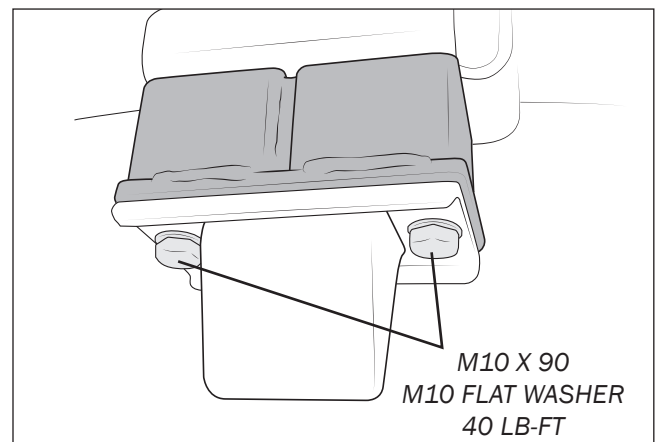

Figure 11
4. Install the bump stop spacers and factory bump stops with supplied hardware and torque to **40 lb-ft** (fig. 11).